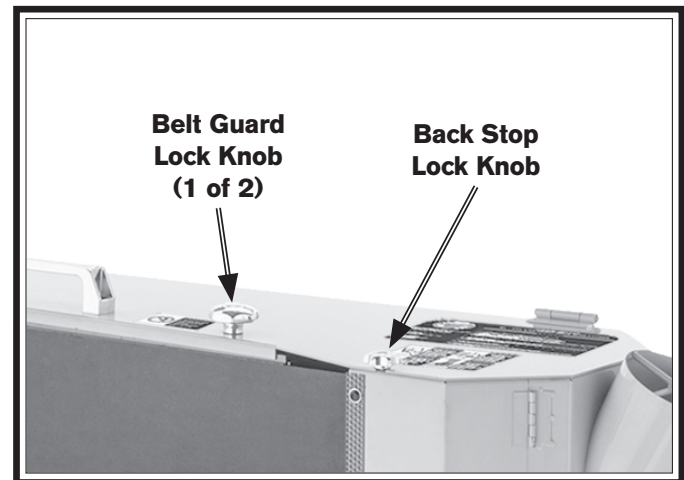

Figure 28. Belt guard components.
2. Remove (2) belt guard lock knobs and washers (see **Figure 28**).
3. Loosen back stop lock knob (see **Figure 28**) and open belt guard and back stop door.